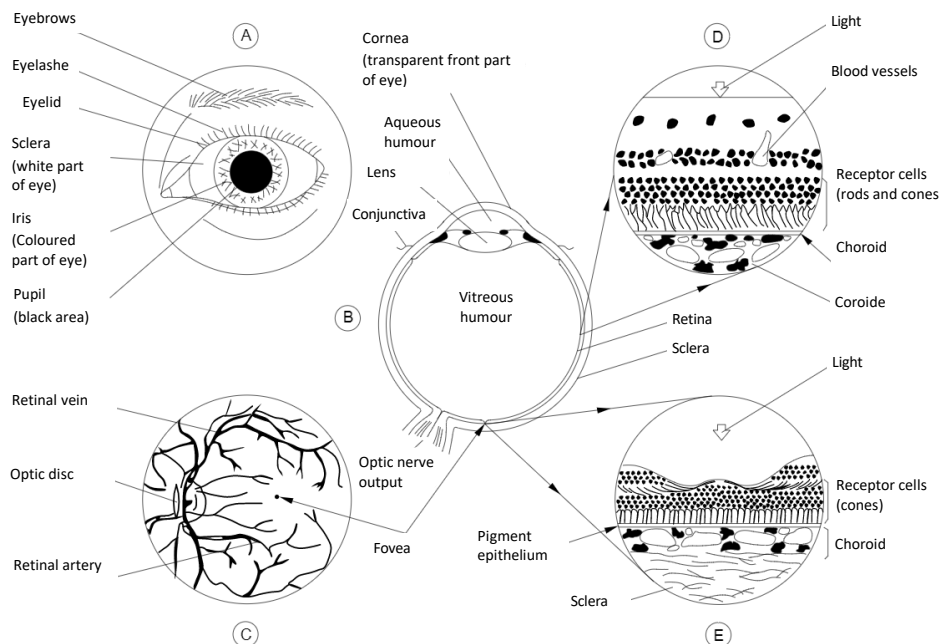

Fig. 4-2 – Physiology of the human eye
Section (A) of Fig. 4-2 displays the external structure of a left eye.
Section (D) displays the structure of the retina as seen in the section of its surface shown in Fig. 4-2 (B), but enlarged a few hundred times from its natural size. The retina consists of a series of nervous cell layers which cover the photosensitive cells: the cones and rods; in other words, light arriving on the retinal surface must move through the nervous cell layers before reaching the photosensitive cells. Beneath the layer of cones and rods is a layer known as pigment epithelium which contains a black-darkish melanin pigment; under this is a thin layer of blood vessels, the choriocapillaris. The last absorbent layer is the choroid, which contains both pigment cells and blood vessels.
Fig. 4-2 features a brief description of the anatomy of the eye. The eye is particularly well-suited to receiving and transmitting optical radiation.